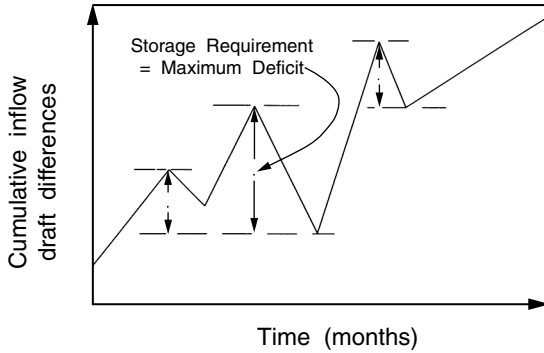

FIGURE M-3 Modified mass diagram.
**Modified mass diagram** An alternative method to the mass curve or Rippl diagram to determine storage requirement given a known sequence of inflows and drafts. Instead of cumulated inflows and outflows, the method uses their cumulated differences. Sometimes called **nonsequential mass curve method**. See Figure M-3; sequent peak procedure.